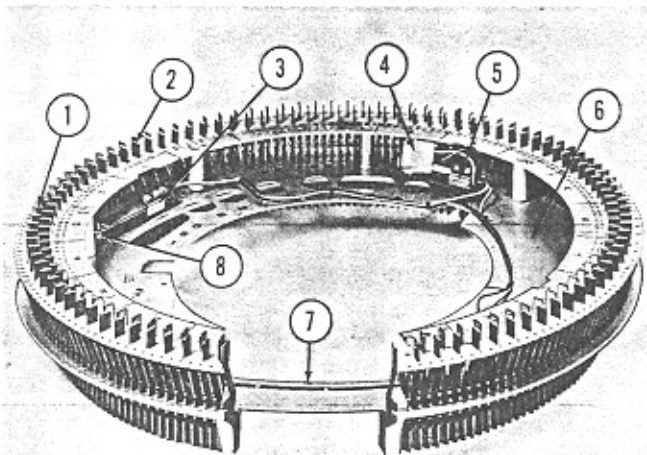

Fig. 29. SELECTOR PLATE AND LATCH PIN ASSEMBLY
a. When a selector latch pin (Items 1 and 2, Fig. 29) is released, the wobble ring (Item 7) on which four spacers (Item 8) are mounted, will be displaced, causing one or more of the spacers to actuate one or more of their respective over-ride switches (Items 3 and 5). The wobble ring rests on shoulders of the 200 selector latch pins as shown in the cut-away section of Fig. 29. There is no adjustment provided for the over-ride switches, however, the forming of their blades should provide $1/32''$ to $1/16''$ normally open condition and positive contact with good wiping action of one or more of the switches when the wobble ring is displaced by any one of the selector latch pins.